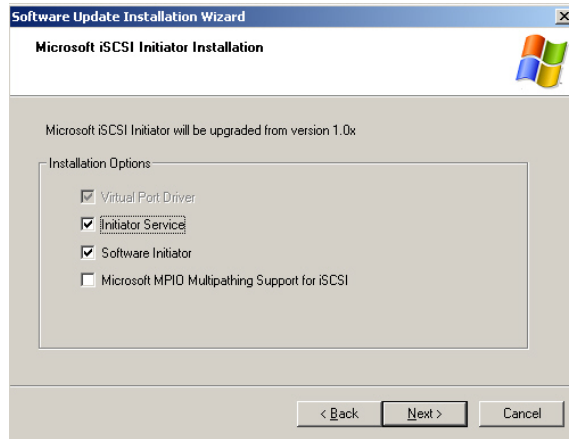

Figure C.2 Software Update Installation Wizard – Screen 2
3. When the screen in Figure C.2 appears, select **Initiator Service** and **Software Initiator**, then click the **Next** button.